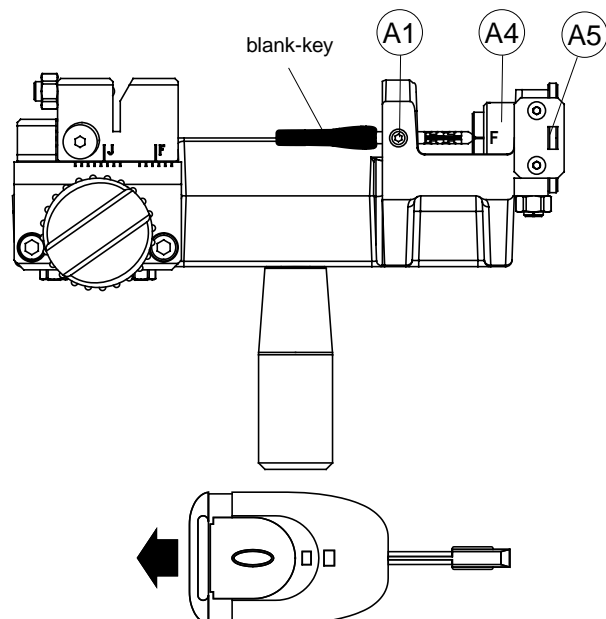

Fig. 14
**ATTENTION:** when cutting original FORD keys with lights, before locking into the clamp detach the part containing the electrical devices, otherwise the head is too big (fig.14).
- 1) place the key blank tip into the rotating clamp (A) and push up against the tip stop groove (A2).
- 2) continue to push, and check that the key is in the vertical position (fig.14) and the number "1" is visible in the window. If necessary, turn the key until it is properly positioned.